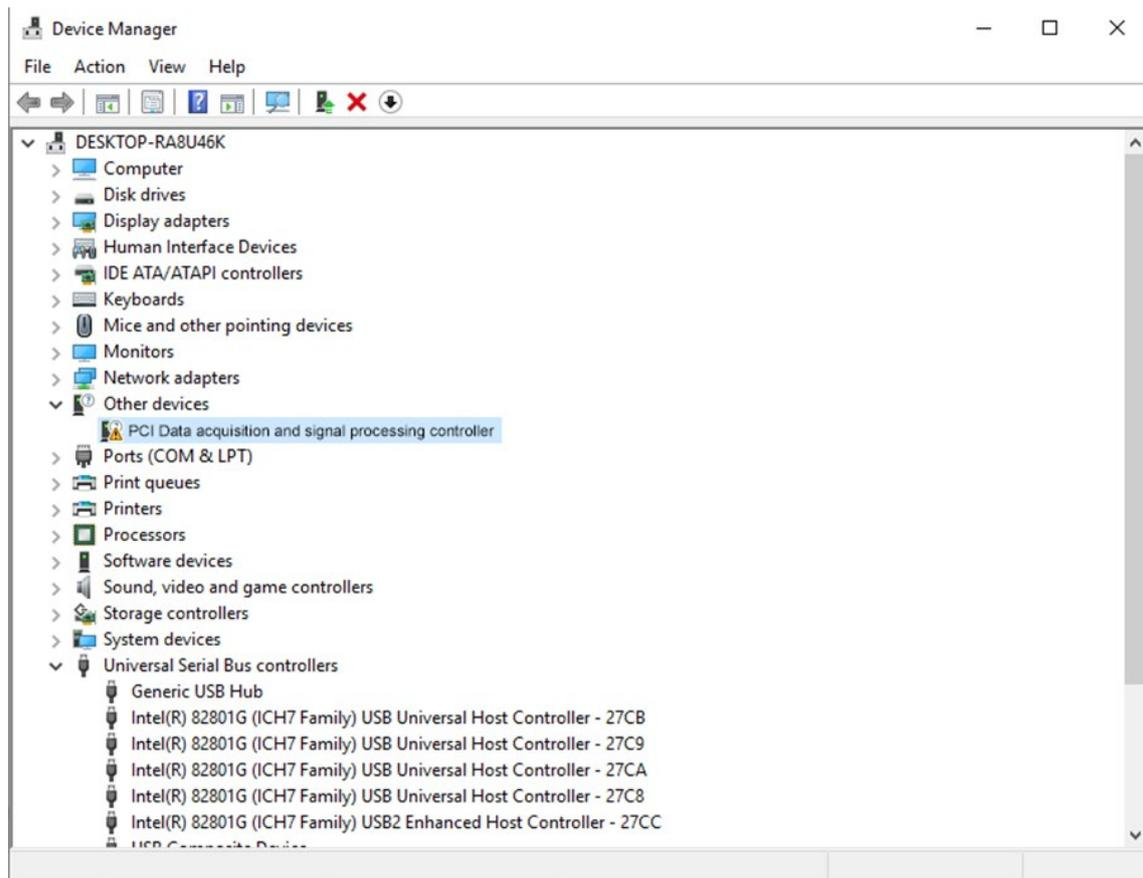

Figure 2.3 Before the driver is installed
- 1) Open the device manager of Windows operating system, and when the driver is not installed, it is displayed as "PCI Data Capture and Signal Processing Controller", as shown in Figure 2.3 below.